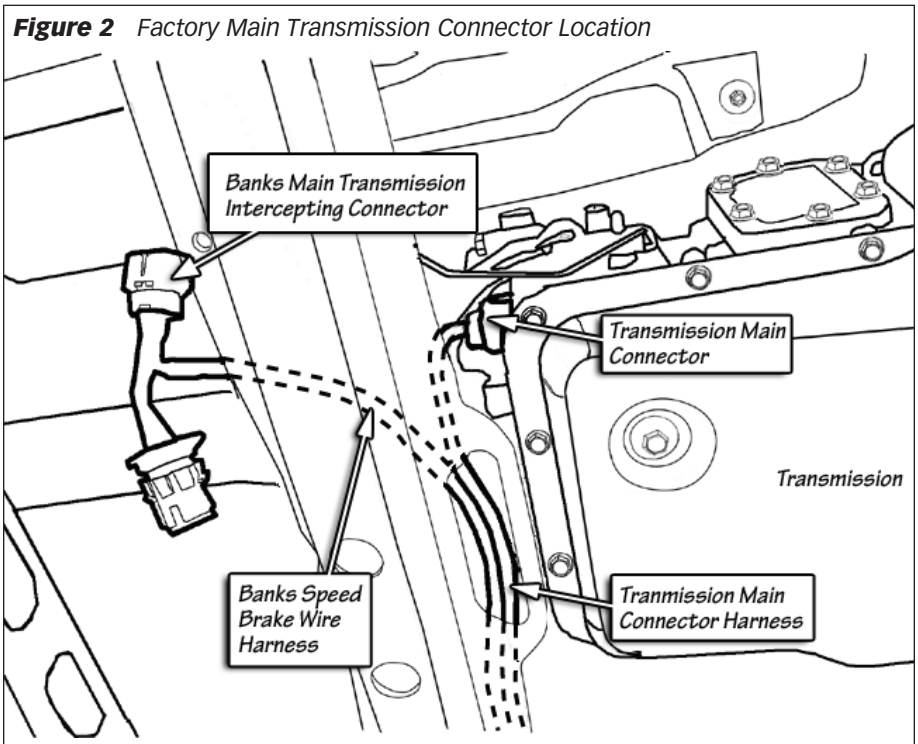

Figure 3 Remove of Driver Side Cowl Support Brace
6. Remove the Driver side Cowl support Brace and retain hardware for reuse. See **Figure 3**.